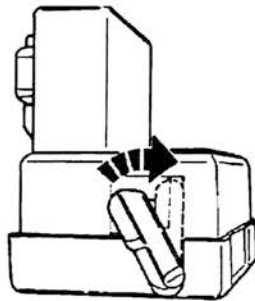

Figure 3
5. Without touching the Brake Pedal, move the black adjustment lever clockwise to adjust the switch. The lever should be parallel to the connector. (Figure 3)